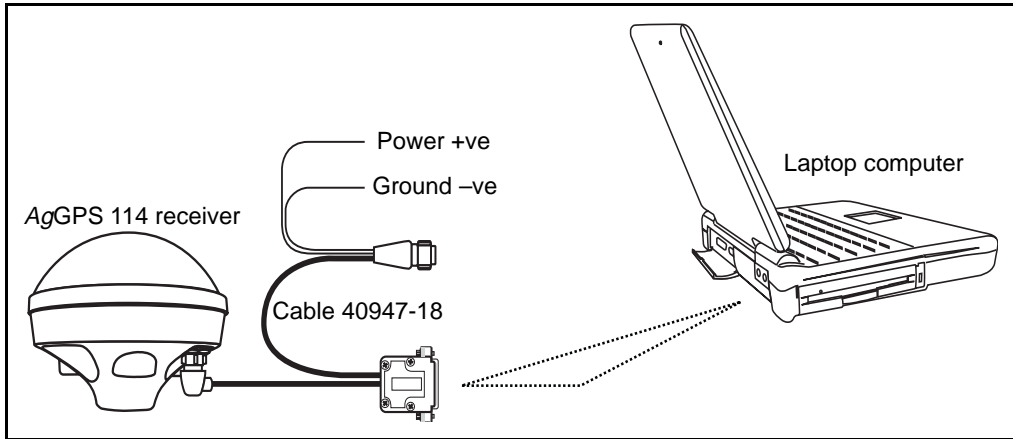

Figure 3.2 Connecting the receiver to an office computer
1. Connect the receiver to the serial port of the office computer, as shown in Figure 3.2.